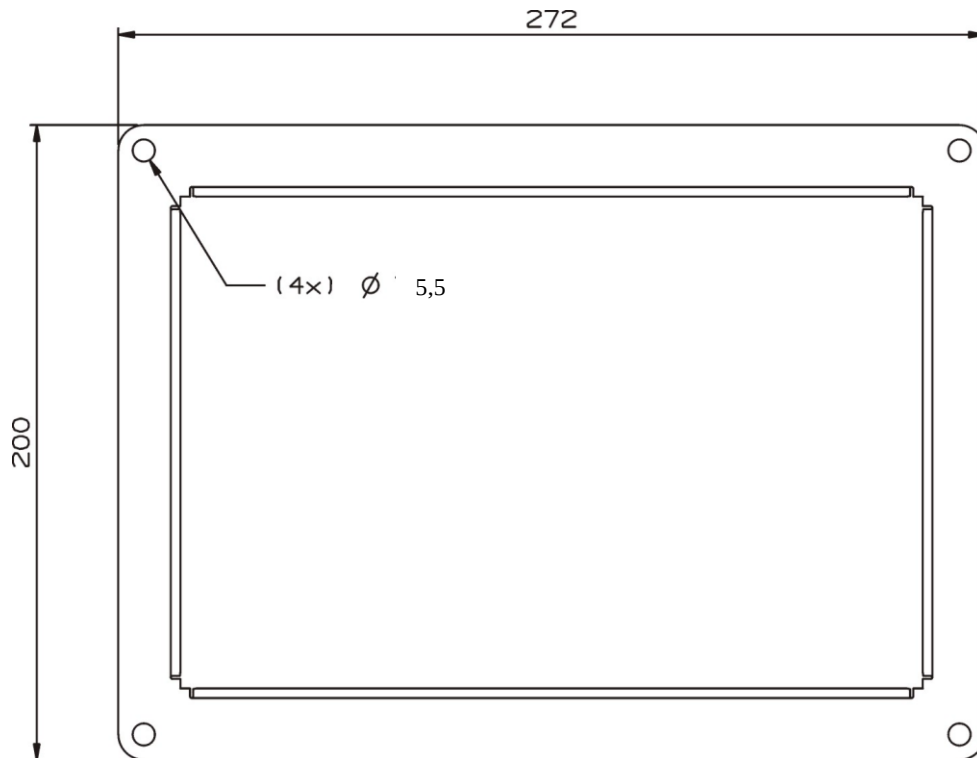
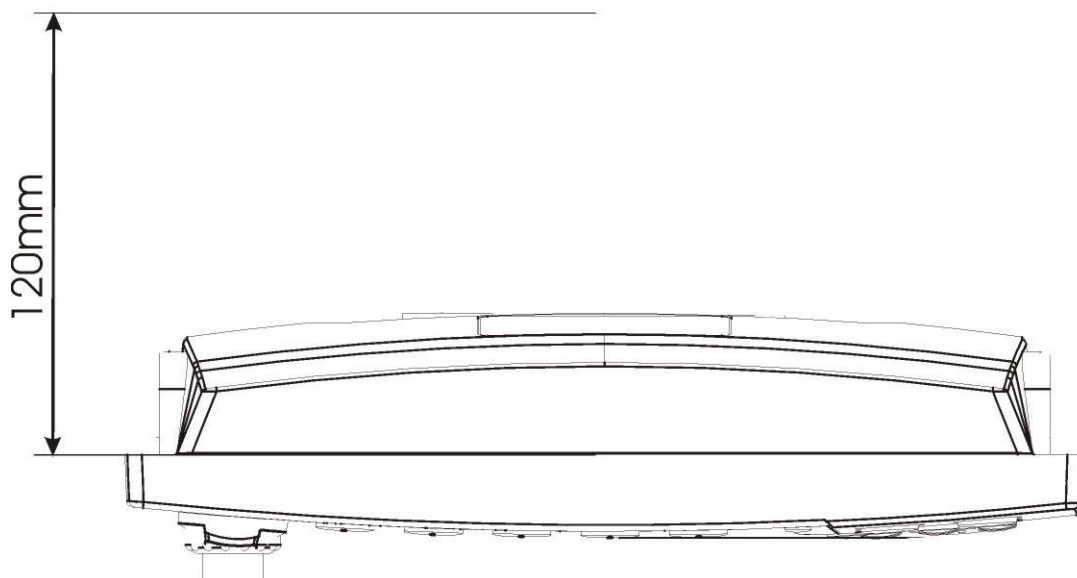

Figure 4-5: Panel mount frame dimensions
Figure 4-6: Clearance distance behind the display
1. Determine where to install the R4 Display, see Figure 4-5 below for dimensions. Make sure that there is enough depth behind the panel, see Figure 4-6. Please note that the signal cable has a maximum bending radius of 10 centimeters.